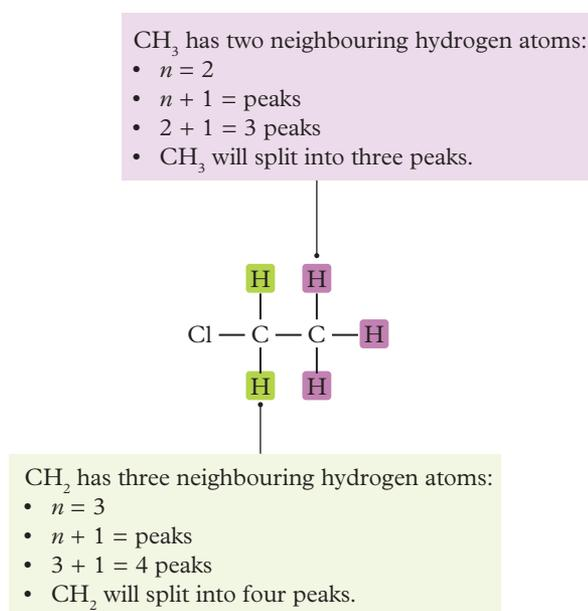

FIGURE 9 Fine peak splitting calculations for chloroethane
- Peak area: In this spectrum, the peak areas have been provided in brackets above the peaks. This is the ratio of hydrogen atoms. The (2) and (3) tell us that the ratio of hydrogen atoms in chloroethane is 2 : 3. In this case, the (2) and (3) correspond to the –CH₂ and –CH₃ groups, respectively.
- Peak splitting: The $-\text{CH}_3$ peak has been split into three finer peaks (a triplet), and the $-\text{CH}_2\text{Cl}$ has split into four fine peaks (a quartet). The calculations of finer peaks for both $-\text{CH}_3$ and $-\text{CH}_2\text{Cl}$ are shown in Figure 9.